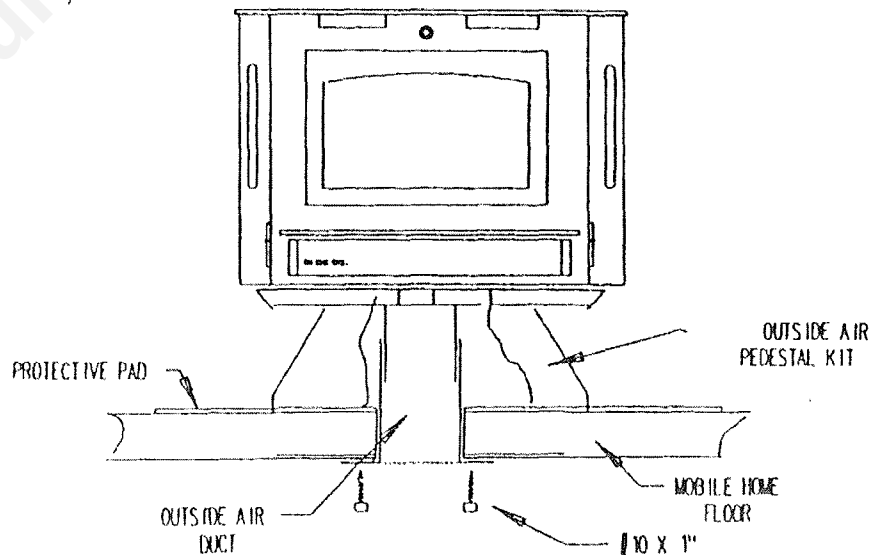

FIGURE 7
- Using the electric drill and 3/8" masonry bit, drill four (4) holes in the protective pad using the holes in the bottom side lips of the pedestal stand as a guide. Be careful to drill only through the pad and not into the floor. Change the bit to a 1/4" metal bit and drill through the floor.
- Using the four (4) 3/8" x 1-1/2" lag bolts provided, secure the pedestal stand and pad to the floor of the mobile home. **CAUTION!!** If a thick floor protector is used, you may have to use longer lag bolts.
- Secure the outside air duct to the floor using the four (4) #10x1 screws provided. (See Figure 7).